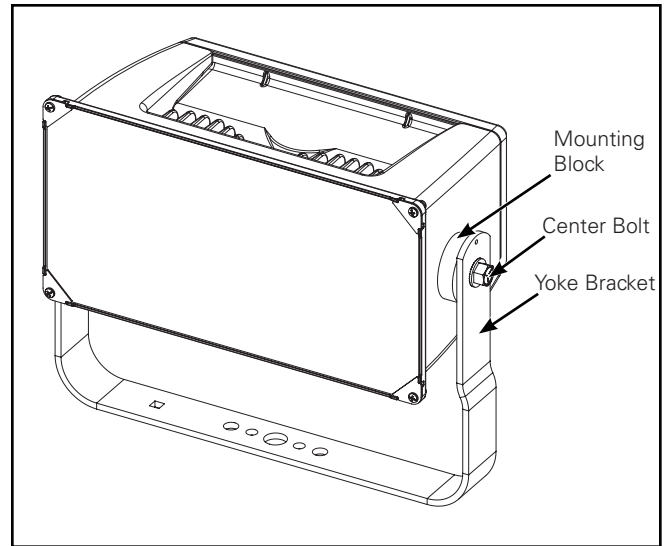

Figure 3.
Yoke Mount (Figure 3.)
2. Loosen but do not remove (2) center bolts. (Figure 3.)